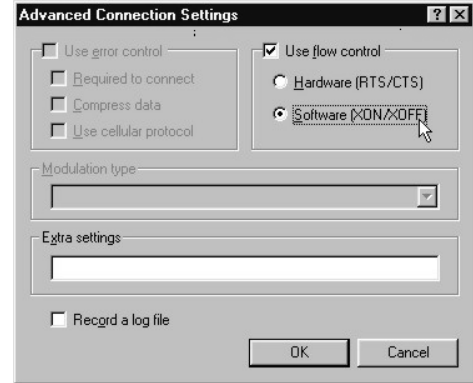

Figure 13 - Advanced Connection Settings
11. From the “Advanced Configuration Settings” select “Software (XON / XOFF)”. Click OK. (Fig. 13)